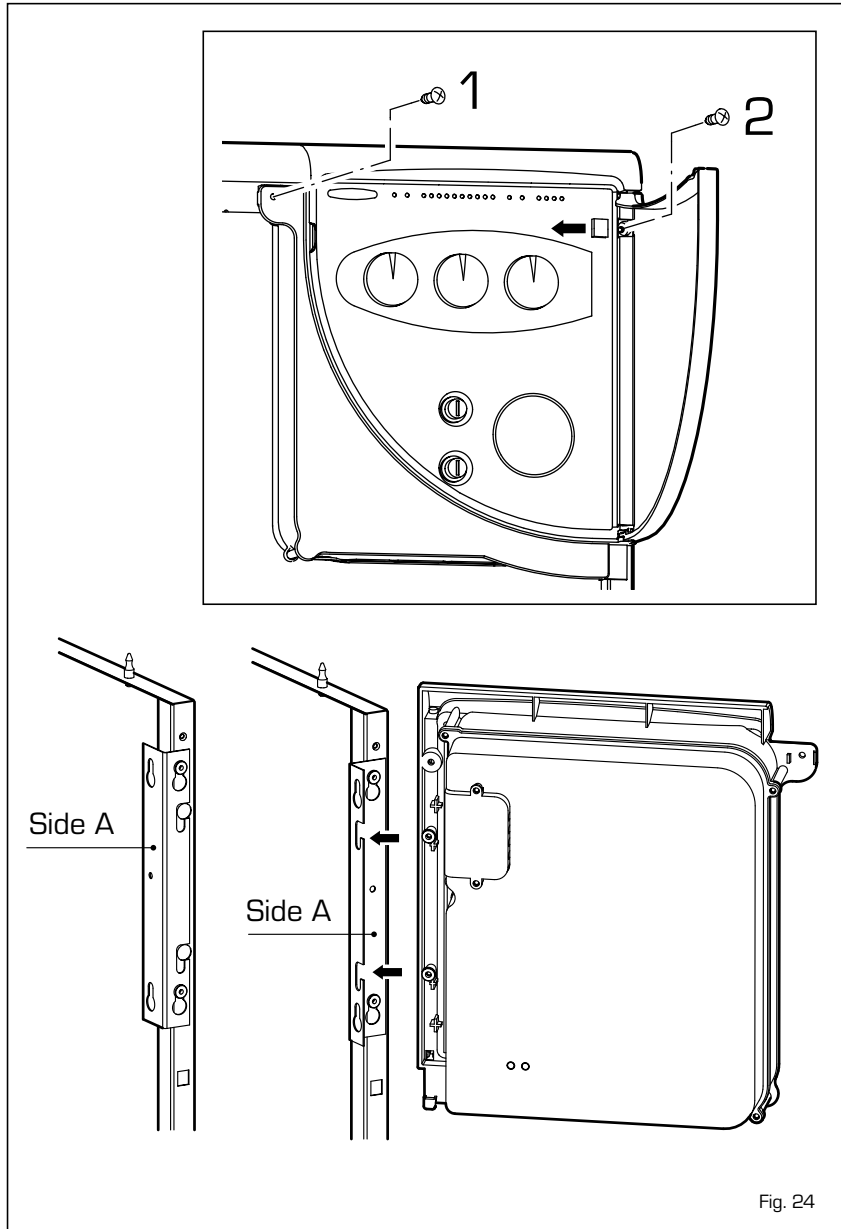

Fig. 24
**5.6.1 Casing cover and control panel dismantling (fig. 24)**